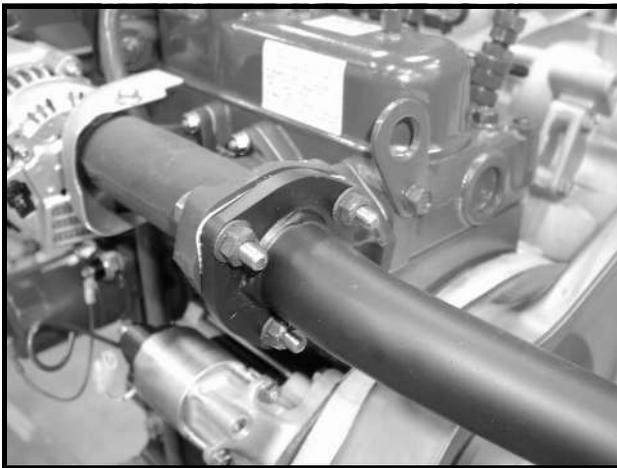

Figure 13b-10 Diesel Manifold Pipe Flange
1. Remove the manifold bolts and flange-head locknuts (**Figure 13b-10, Page 13b-7**).
3. Install new bolts and flange-head locknuts. Tighten the hardware to 21 ft-lb (28.5 N-m) (**Figure 13b-10, Page 13b-7**).